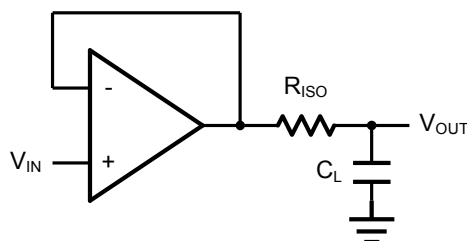
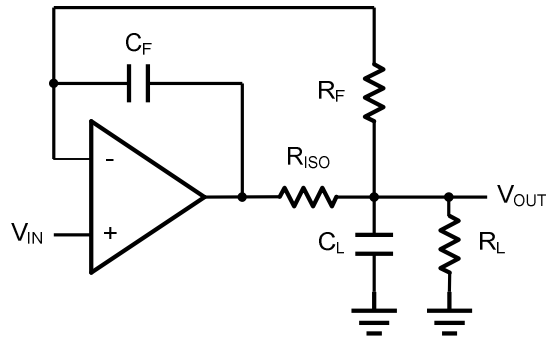

Figure 2. Indirectly Driving a Capacitive Load Using Isolation Resistor
Figure 3. Indirectly Driving a Capacitive Load with DC Accuracy
The HGV604X family is optimized for bandwidth and speed, not for driving capacitive loads. Output capacitance will create a pole in the amplifier's feedback path, leading to excessive peaking and potential oscillation. If dealing with load capacitance is a requirement of the application, the two strategies to consider are (1) using a small resistor in series with the amplifier's output and the load capacitance and (2) reducing the bandwidth of the amplifier's feedback loop by increasing the overall noise gain. Figure 2. shows a unity gain follower using the series resistor strategy. The resistor isolates the output from the capacitance and, more importantly, creates a zero in the feedback path that compensates for the pole created by the output capacitance.
The circuit in Figure 3 is an improvement to the one in Figure 2. R_F provides the DC accuracy by feed-forward the V_{IN} to R_L . C_F and R_{ISO} serve to counteract the loss of phase margin by feeding the high frequency component of the output signal back to the amplifier's inverting input, thereby preserving the phase margin in the overall feedback loop. Capacitive drive can be increased by increasing the value of C_F . This in turn will slow down the pulse response.